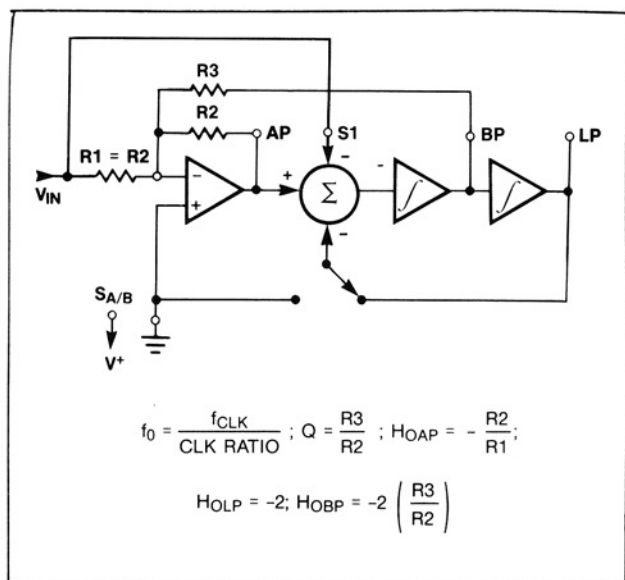

Figure 15. Mode 4: 2nd-Order Filter Providing Allpass, Bandpass, Lowpass
**MODE 4 and 4A** (Figures 15, 16) provide the only allpass output, i.e., a nearly flat amplitude response and linear phase shift with frequency (constant time delay). The numerator complex zero pair and denominator complex pole pair have the same center frequency and  $Q$  so that the magnitude response is a straight line. In Mode 4,  $f_0$  is controlled by the clock and  $f_{CLK}/f_0$  programming while in Mode 4A,  $f_0$  can also be tuned with resistors.